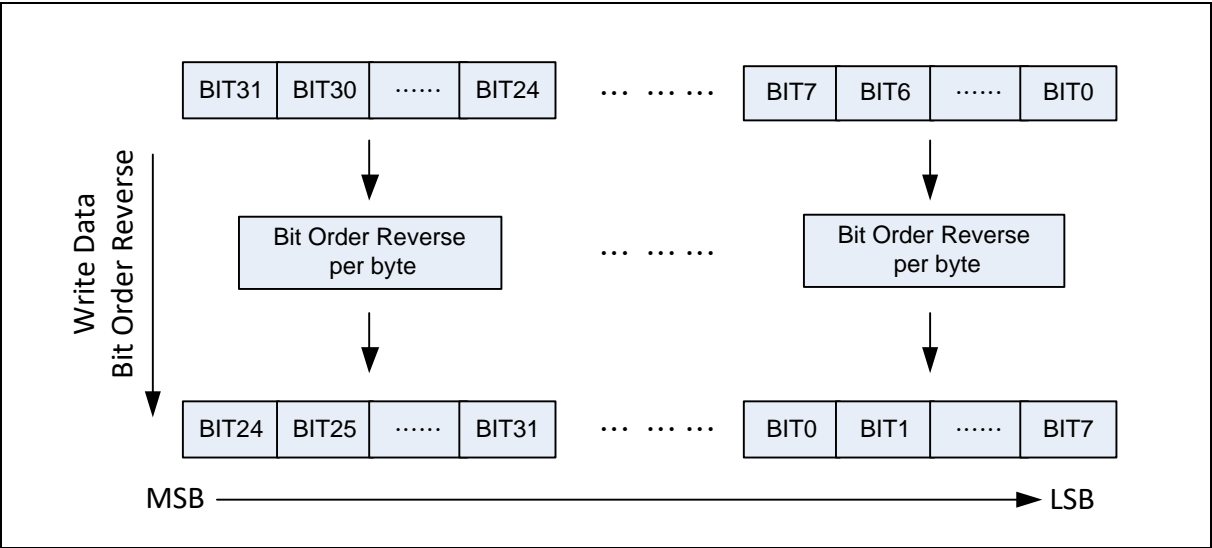

Figure 6.18-3 Write Data Bit Order Reverse Functional Block
- 3) Configure bit order reverse for CRC write data per byte by setting DATREV (CRC_CTL[24] Write Data Bit Order Reverse). The functional block is also shown in Figure 6.18-3.